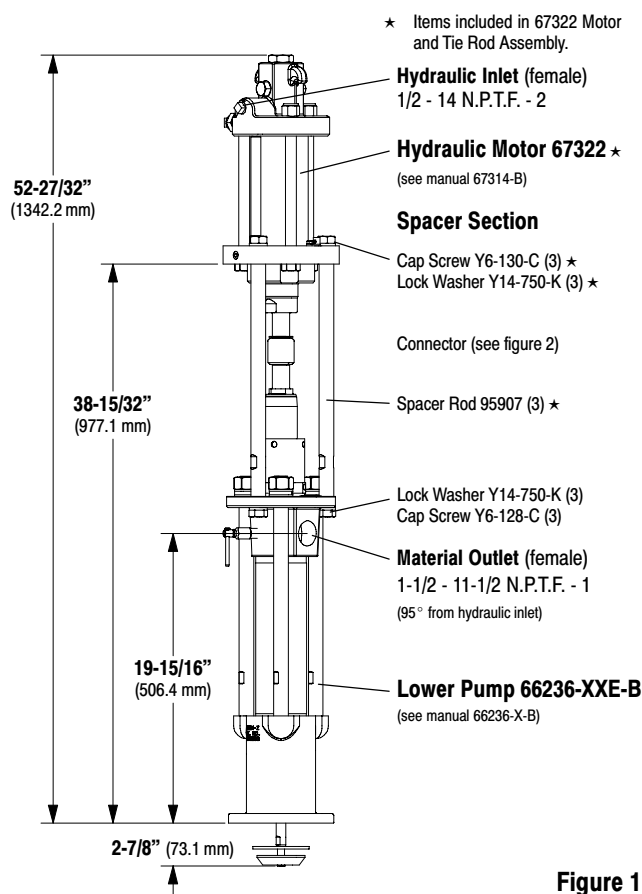

Figure 1
- Remove the top three (Y6-130-C) cap screws and (Y14-750-K) lockwashers from the three spacer rods (figure 1).